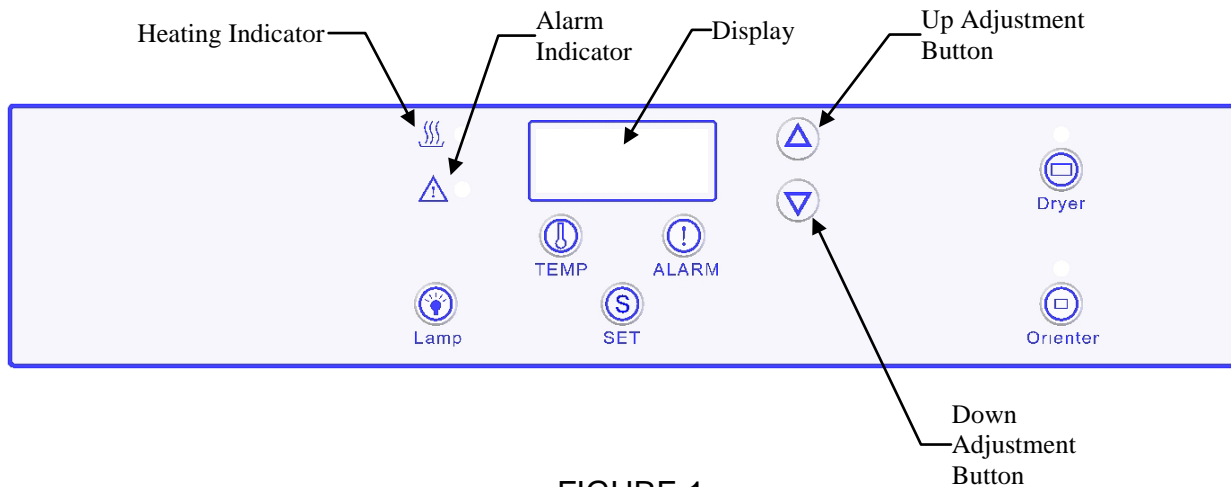

FIGURE 1
4.1 Controls and Indicator Lamp (see figure 1)